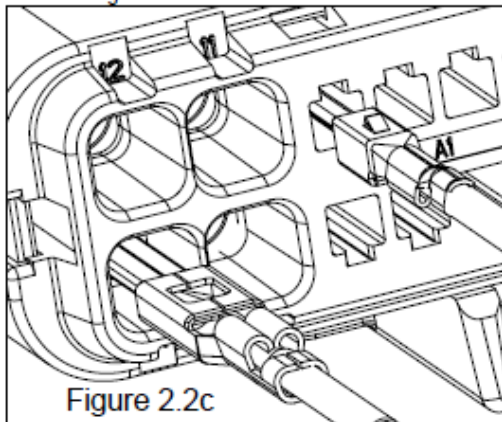

Figure 2.2c
- Orient the male terminals correctly with each terminal position opening in the male connector assembly as shown in Figure 2.2c.
- Carefully insert the terminal into the cavity opening. If the force to install each terminal seems high or the terminal will not seat – Stop! Remove the terminal, recheck its orientation (Figure 2.2c), verify the cavity does not have